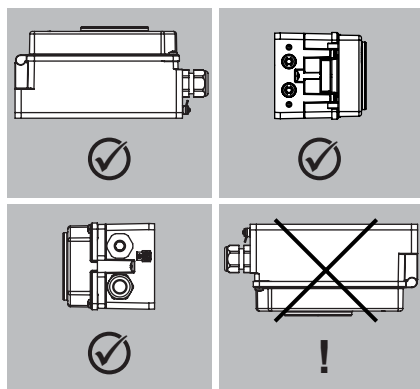

Fig. 5-2: Permissible mounting
- Observe mounting position (see Fig. 5-2).